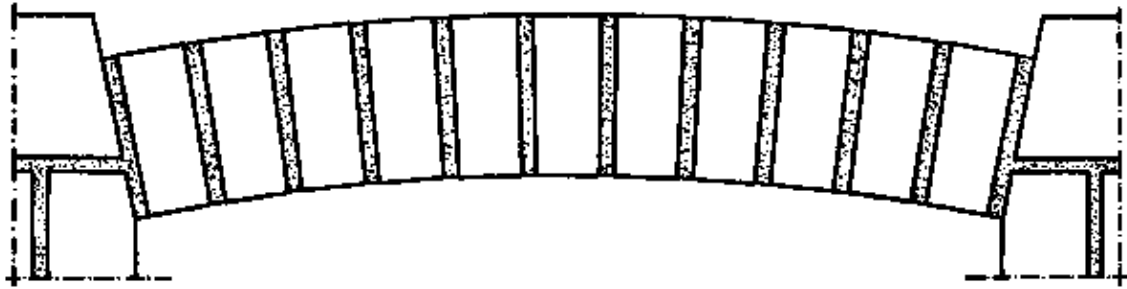

Fig. 4
- The most perfect solution would be to use specially made archstones which are wedge-shaped and fit exactly in the arch (Fig. 4). This requires some detailed and accurate